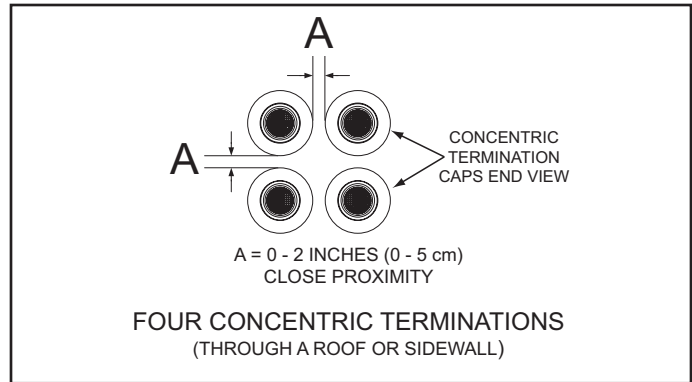
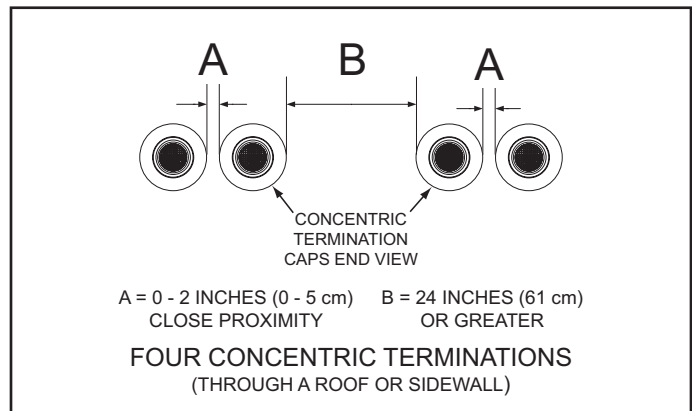
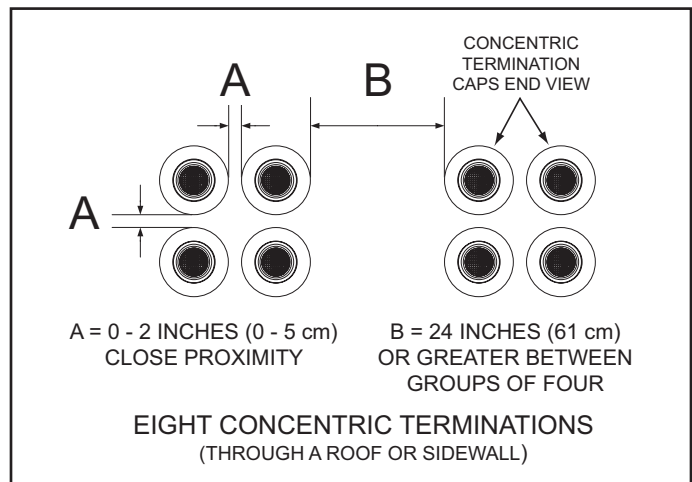
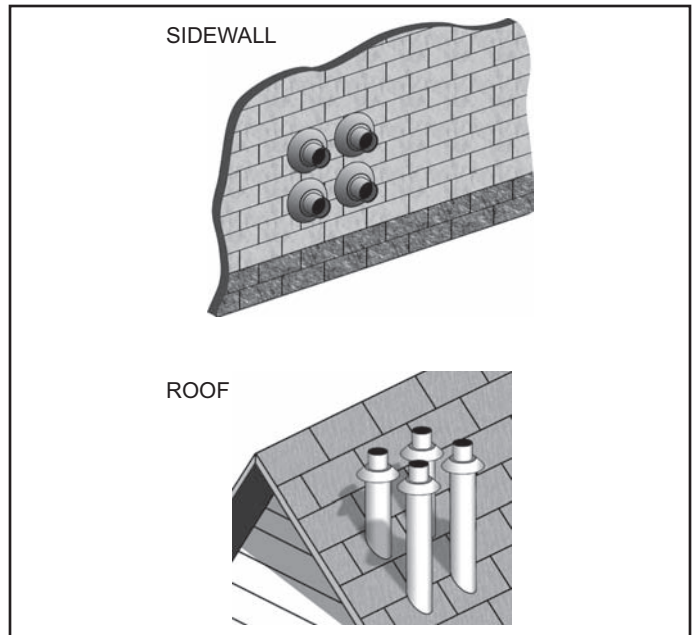

Figure 33
Figure 34
Figure 35
Figure 37
1. When installing four concentric terminations through a roof or through a sidewall in close proximity they may be arranged into stacked rows of two as shown in Figure 33 or lateral rows of two as shown in Figure 34.
2. Four is the maximum number of concentric terminations that may be installed in a group where all terminations are in close proximity as shown in Figure 33.
1. When installing multiple groups of concentric terminations through a roof or through a sidewall in close proximity they can be installed into stacked groups of four as shown in Figure 35. Lateral groups of four as shown in Figure 34 may be a more convenient installation arrangement for multiple groups depending on available space.
Four concentric terminations may be installed in close proximity as shown in Figure 37. See Figure 33 and Figure 34 on page 30 for detailed information on clearances and additional arrangement options.
Eight concentric terminations may be installed in two stacked groups of four, in close proximity, as shown in Figure 38. See Figure 35 on page 30 for detailed information on clearances.
Lateral groups of four as shown in Figure 34 on page 30 may be a more convenient installation arrangement for multiple groups depending on available space.